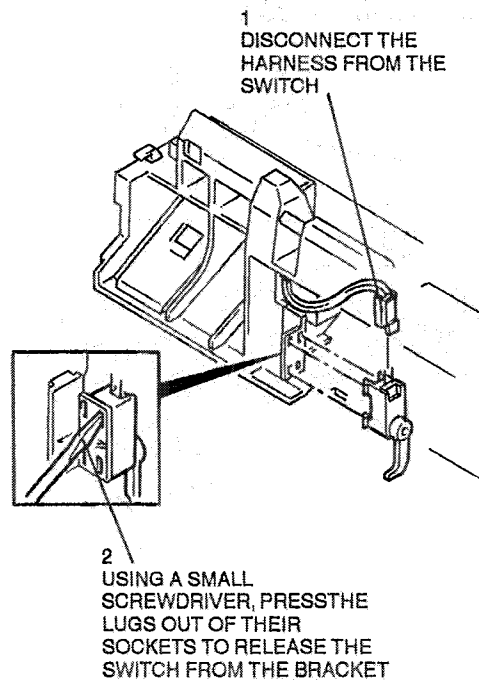

Figure 1. Input paper switch removal
4. (Figure 1) Remove the Input paper switch.